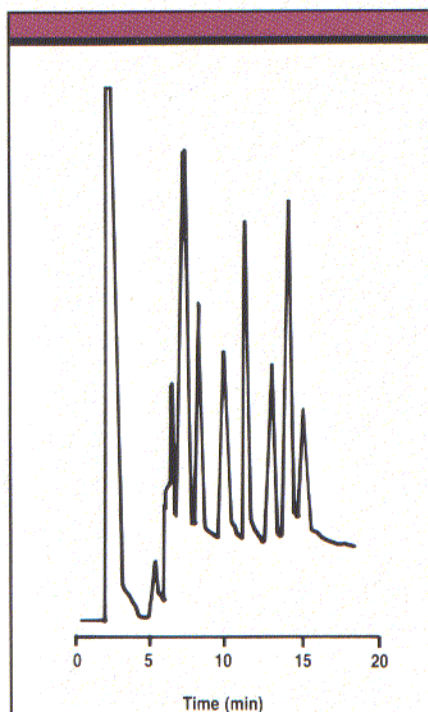

FIGURE 1: Phospholipid separation obtained in the original laboratory. (Reprinted with permission from reference 1.)
Q: I have been analyzing phospholipids for some time and recently have been trying to use an assay developed in another laboratory (1). As you can see in Figure 1, the original separation looks pretty good. However, when using this method, I observe a large baseline rise at the beginning of the chromatogram and obtain an inferior separation (Figure 2). I modified the method by adding steps such as preparing fresh mobile phase daily but have not achieved a satisfactory separation. What could I be doing wrong?
FIGURE 2: Phospholipid separation obtained when the reader tried to duplicate the separation shown in Figure 1. The gradient is superimposed on the chromatogram.